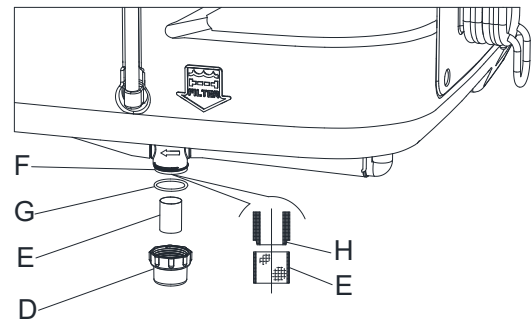

Figure 14
4. Remove the cover (D, Figure 14), then remove the filter strainer (E). Clean and install them on the support (F).